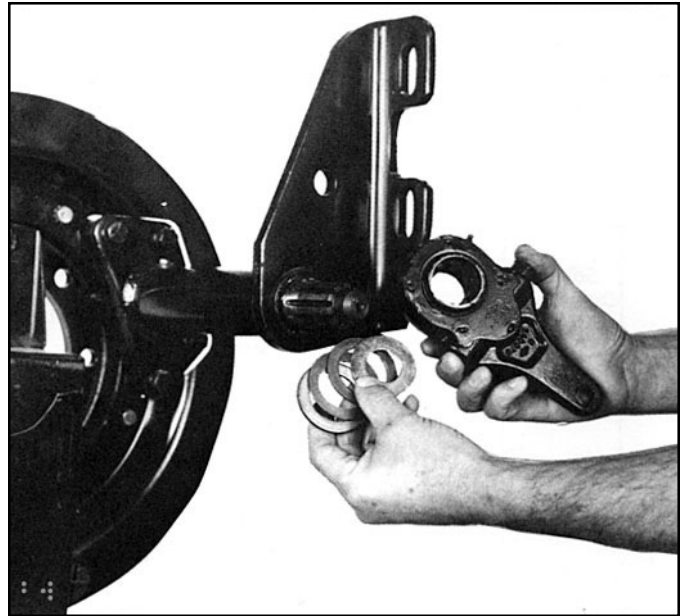

FIGURE 6 - REMOVING SLACK ADJUSTER
7. Remove snap ring and washer from splined end of cam shaft. Remove slack adjuster from cam shaft. (A puller may be required.) Remove spacers and the thick washer from cam shaft (See Figure 6).